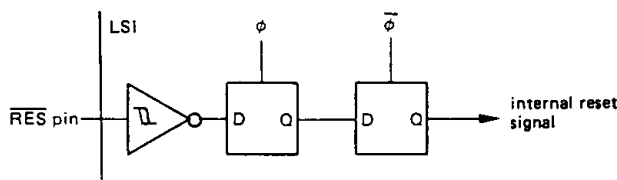

Figure 37 RES Circuit
**RES** must be held low for at least 20 ms when the power starts up. In this case, the internal reset function is not effective until the oscillation begins at power-on. The **RES** signal is input to the LSI in synchronism with the internal clock  $\phi$  (shown in Figure 37.)